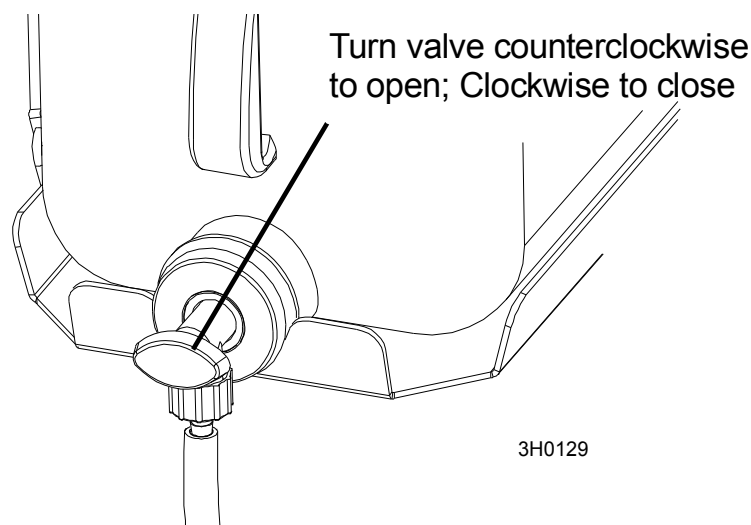

FIG. 3-19
**See Figure 3-19.** Open the valve on the water bottle. Sawmills include a solenoid valve that will automatically start the water flow when the power feed is activated in the forward direction. The solenoid will stop the water flow when the feed switch is returned to the neutral position.